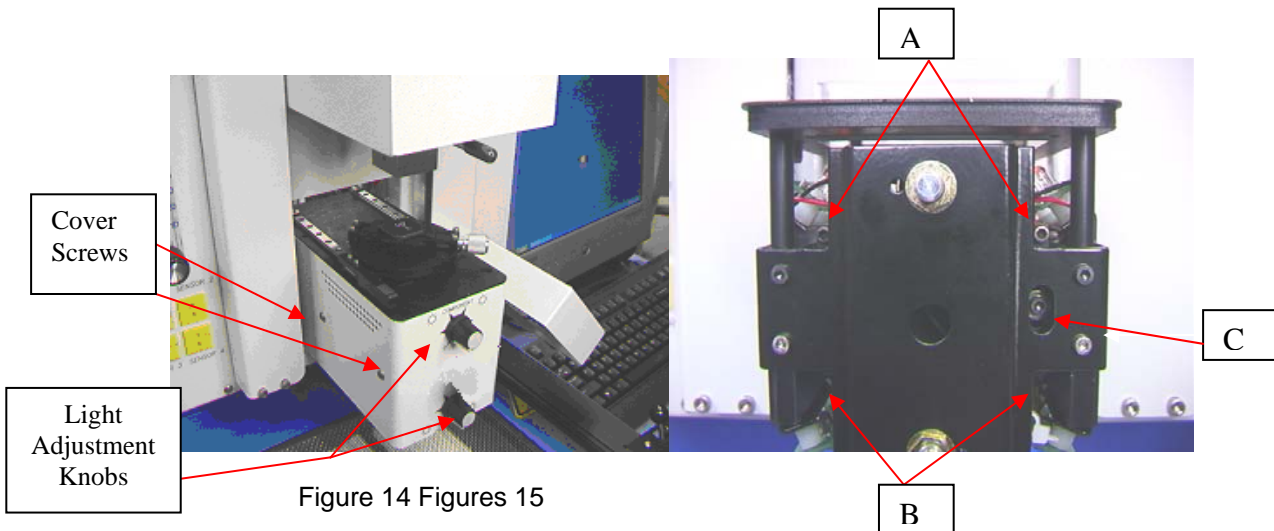

Figure 14 Figures 15
1. Loosen the setscrews from the light adjustment knobs (Figure 14)
3. Remove the four screws (2 on each side) from the cameras' sheet metal cover (Figure 14)